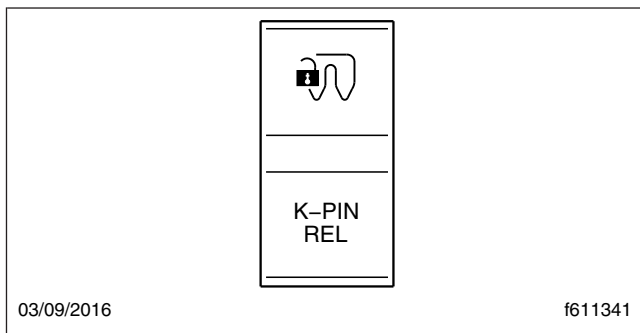

Fig. 17.22, Kingpin Release Switch
A dash-mounted kingpin release switch (if so equipped) may be used to uncouple the trailer. See **Fig. 17.22**.
2. Push and hold the kingpin release switch, shown in Fig. 17.22, for a minimum of 3 seconds. The system will apply air for 20 to 30 seconds to ensure the kingpin unlocks. When the kingpin is unlocked, a notification is displayed as shown in Fig. 17.25.